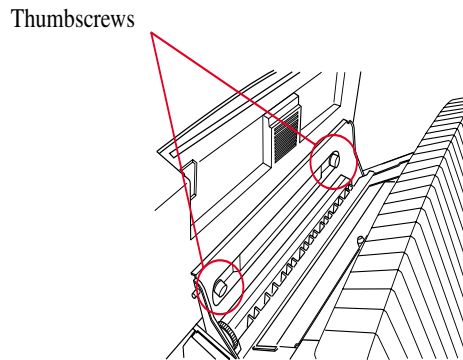

Fig. 3-46
5. Secure the duplexer to the printer with the thumb screws (see Fig. 3-46).